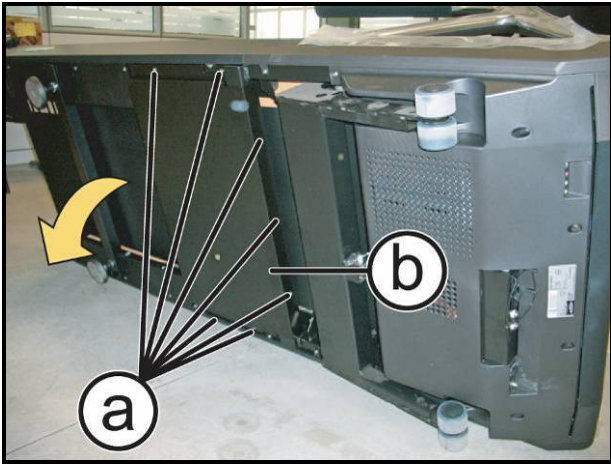

Figure 7.14-6
8. Reassembly the guard and look down again the 7 screws backing off previously in Figure 7.14-6.